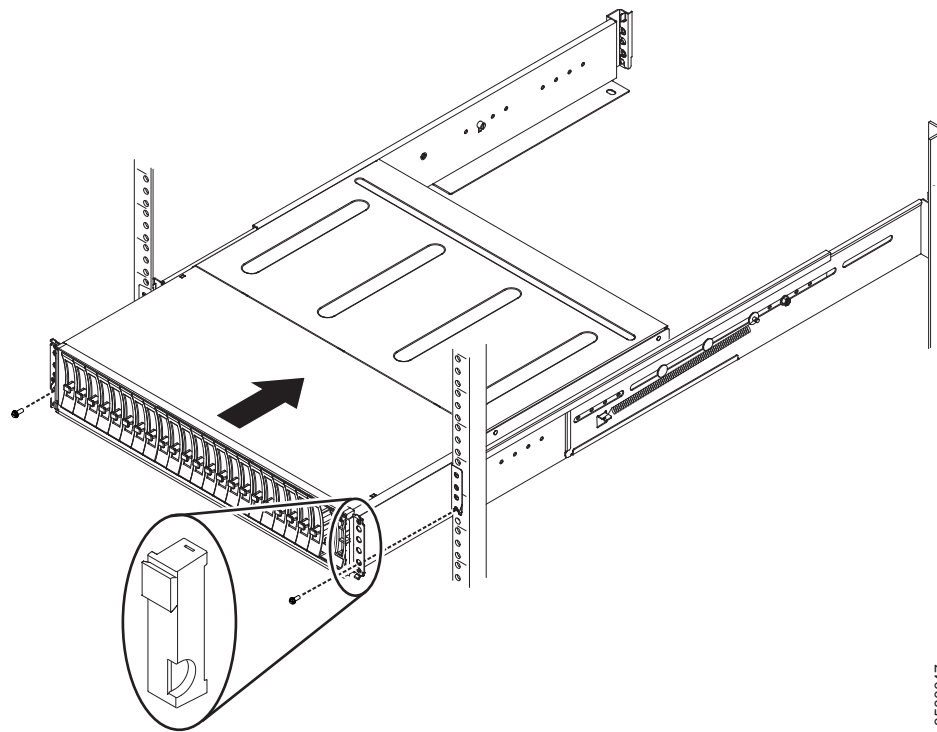

Figure 11. Inserting the enclosure
3. Carefully slide the enclosure into the rack along the rails until the enclosure is fully inserted (see Figure 11).
5. Reinstall the left and right end caps. (See Figure 11 on page 14.) The left end cap has indicator windows that align with the status LEDs (light-emitting diodes) on the edge of the enclosure.